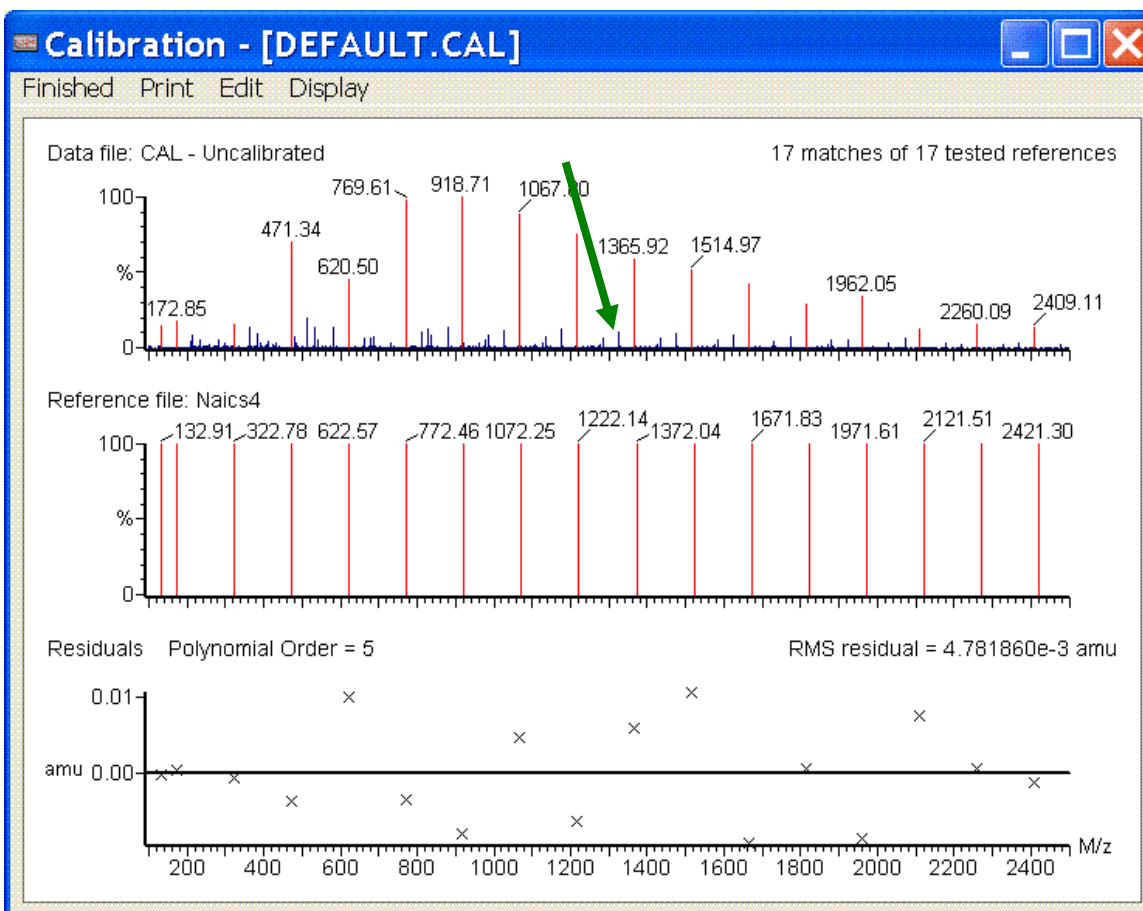

Figure 18
12. Click “OK” until this screen appears (Figure 18)